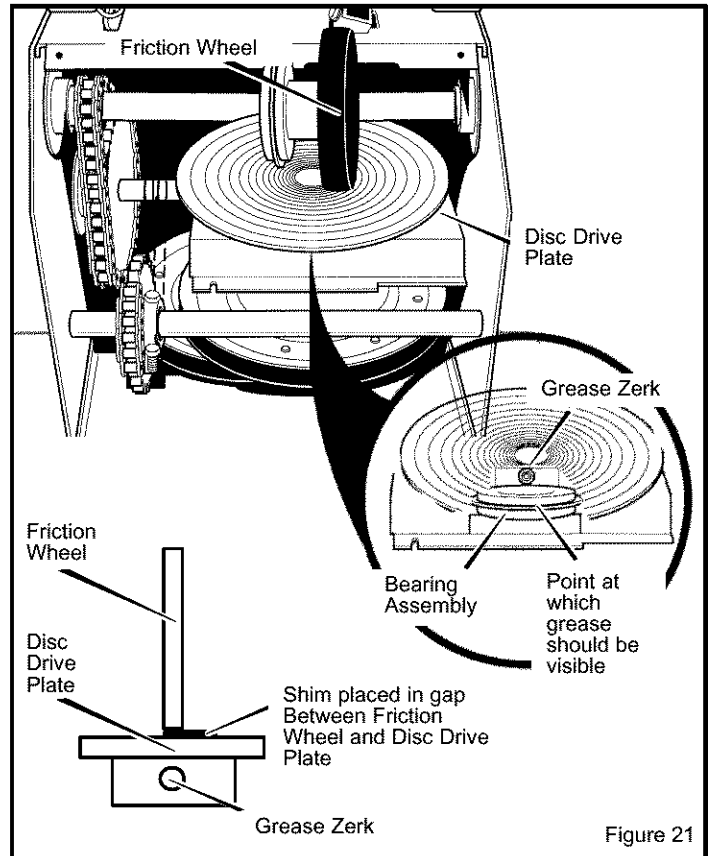

Figure 21
4. Turn disc drive plate clockwise by hand until grease zerk is clearly visible at front center (see Figure 21).
5. Place a coin or (a shim of equal thickness) between the rubber friction wheel and disc drive plate to prevent rubber friction wheel contacting the drive disc (see Figure 21).
6. To grease zerk, use a hand grease gun, lubricate with a Hi Temp EP Moly grease. See inset of Figure 21. **DO NOT** over fill or allow grease to come in contact with the disc drive plate or friction wheel or damage will result. Fill zerk only until grease becomes visible below bearing assembly located under grease zerk.